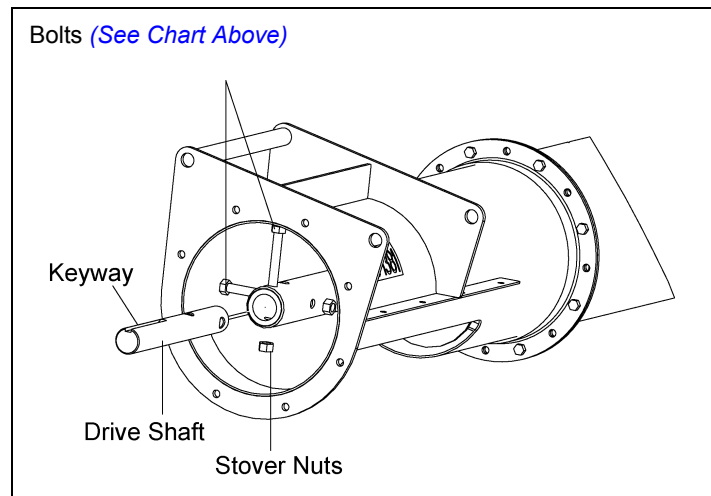

Figure 4G
- A. Insert the Drive Shaft into the opposite end of flight with keyway facing outward. Align the holes in the shaft and secure with Grade 8 bolts and stover nuts. (See Chart Below) and (See Figure 4G)